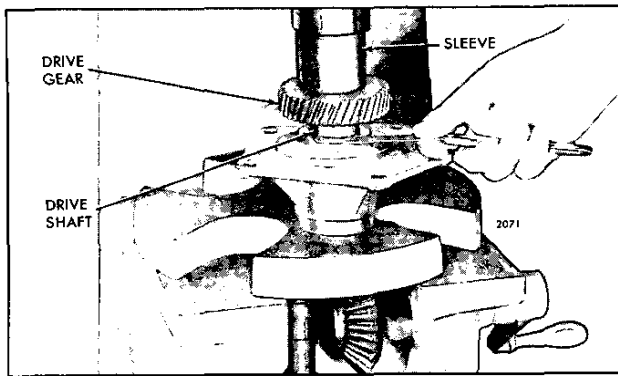

Fig. 5 – Pressing Blower Drive Gear On Shaft
5. Position the gear on the shaft so the keyway in the gear is in alignment with the key in the shaft. Then, place a sleeve on the gear and press the gear on the shaft until the clearance between the gear and support is .004" to .012" (Fig. 5).